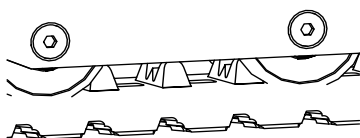

Fig. 233
5. Turn the button head coupler (Fig.233/1) 180° clockwise until the grease nipple (Fig.233/2) points outwards.
6. Use a grease gun to inject multi-purpose grease through the grease nipple (Fig.233/2) until the crawler track has been tensioned.